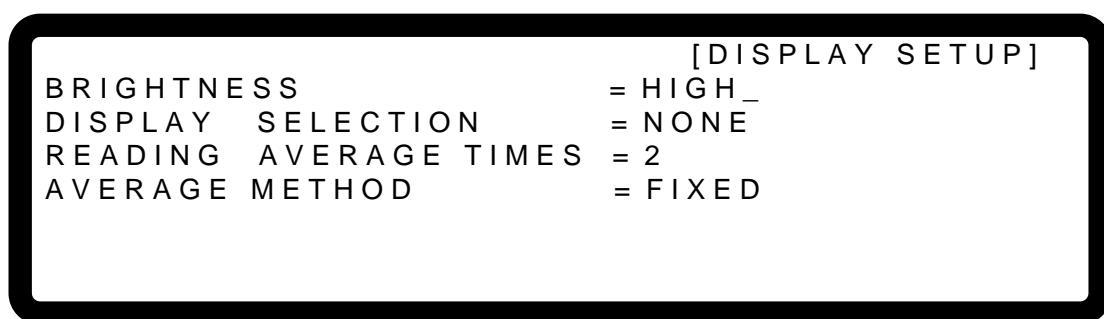

Figure 3-60
1. Use the " ", " " keys to move the cursor to the column to be set as shown in Figure 3-60.